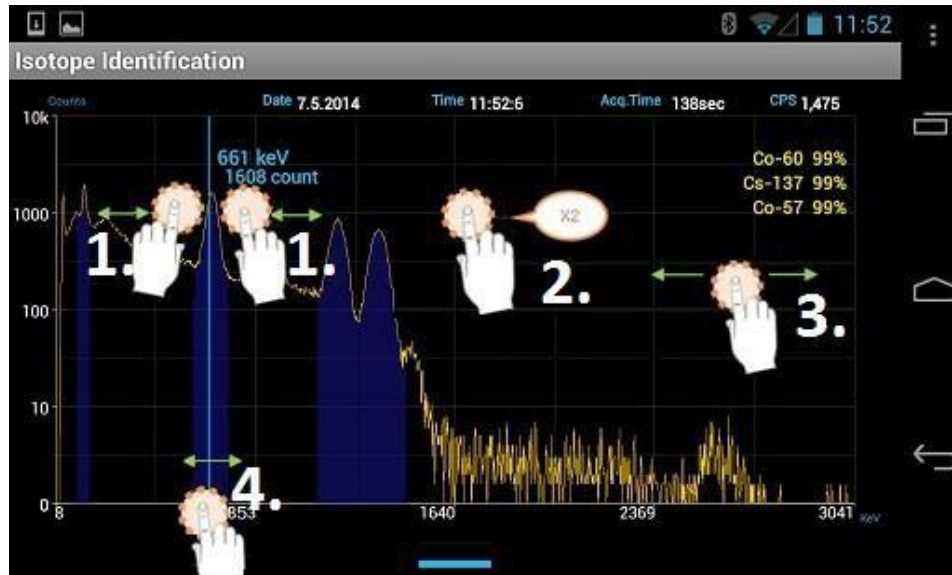

Figure 4.5. Spectrum manipulation features
You can manipulate the spectral display by touching areas of the screen (Figure 4.5).
3. Rotate the smartphone 90° to initiate the Isotope Identification screen and enable manipulation of the spectrum as described in Figure 4.5.